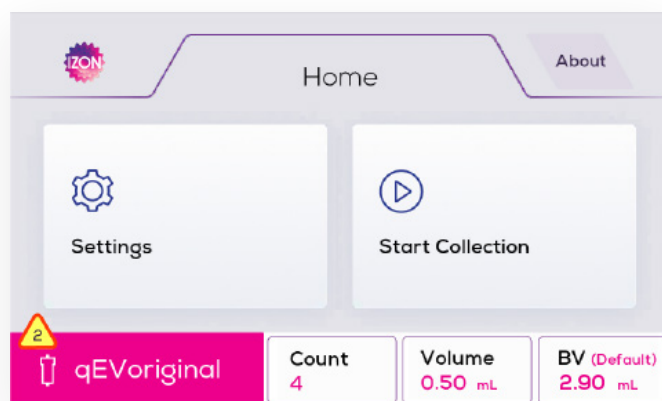
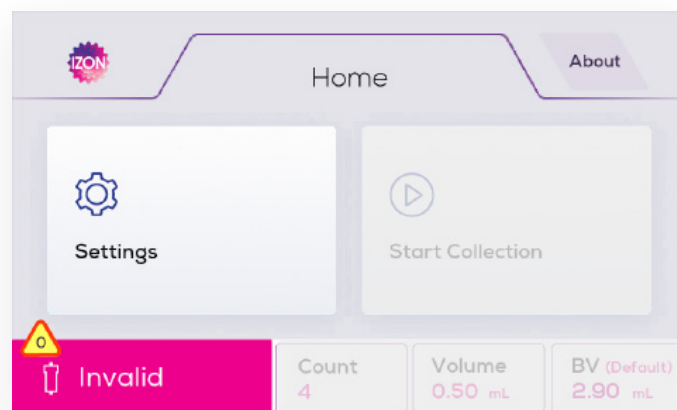

Figure 12: A warning indicator shows how many uses a column has left after the recommended uses have been exceeded.
Figure 13: The home screen displaying when a column is invalid.
A warning indicator will be displayed when the recommended number of uses (5) has been exceeded, as shown in Figure 12. After 5 uses, the warning indicator will appear and a countdown from 5 to 0 uses will commence. The AFC will display “invalid column” when it has been used a total of 10 times, as shown in Figure 13.